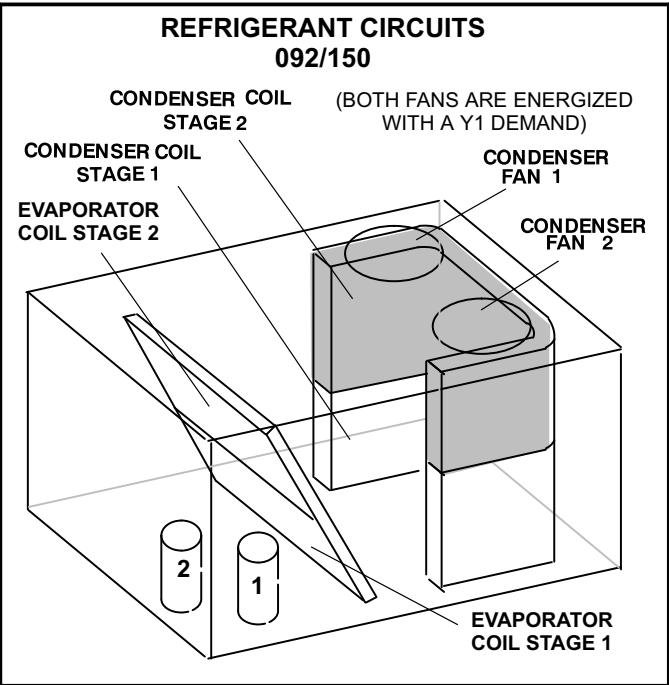

FIGURE 19
- 3- Units contain two refrigerant circuits or stages. See figure 19.